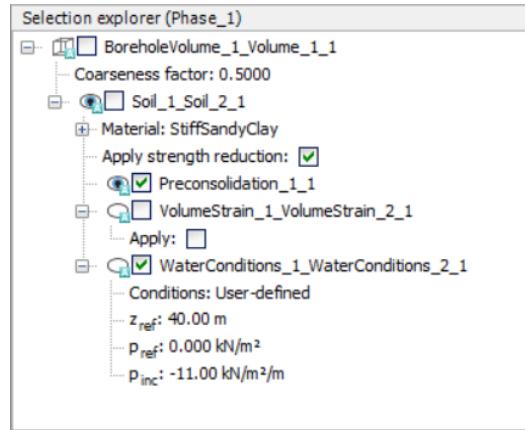

Figure 4-4: User-defined water condition in part I
3. In the selection explorer (see Figure 4-4 \(p. 77\)), deactivate the soil volume. Set the water condition to **User-defined** and enter $z_{ref} = 40$ m, $p_{ref} = 0.0$ kN/m² and $p_{inc} = -11$ kN/m²/m.